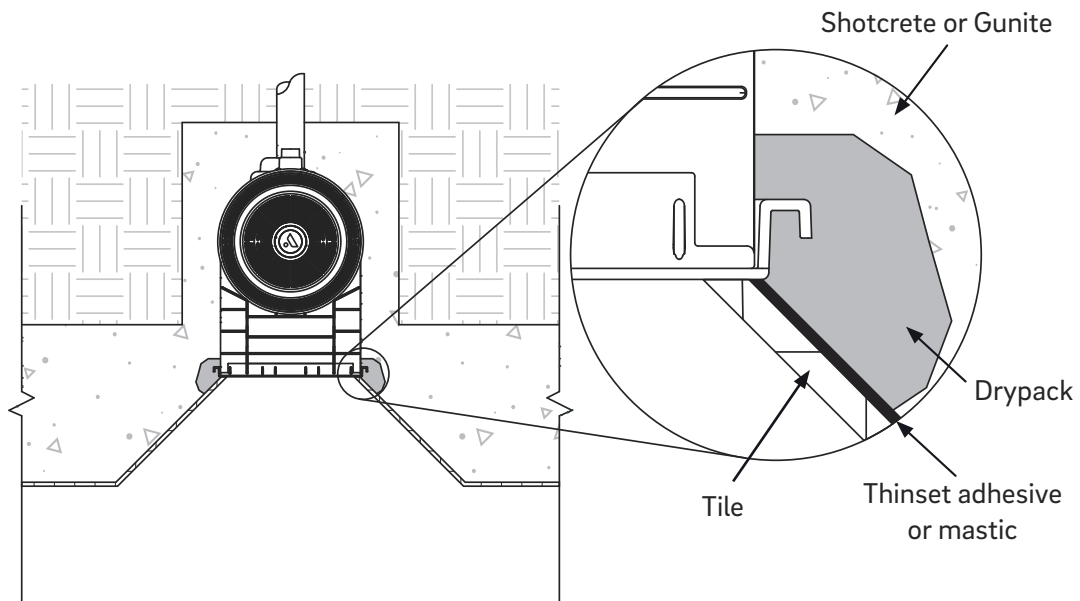

Figure 7
4. After the concrete has been shot and before it has set, be sure to clear away a space approximately the width of two fingers around the perimeter and behind the waterstop (Figure 7). This will ensure enough area is available to properly dry-pack the void and prevent leaking. The newly designed waterstop provides better protection against leaks, while making it easier to properly install tile of any size.